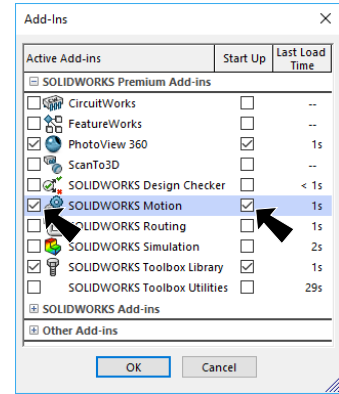

Fig. 1
Step 3. Check SOLIDWORKS Motion check box under Active Add-Ins and Start-Up, Fig. 1. Click OK.